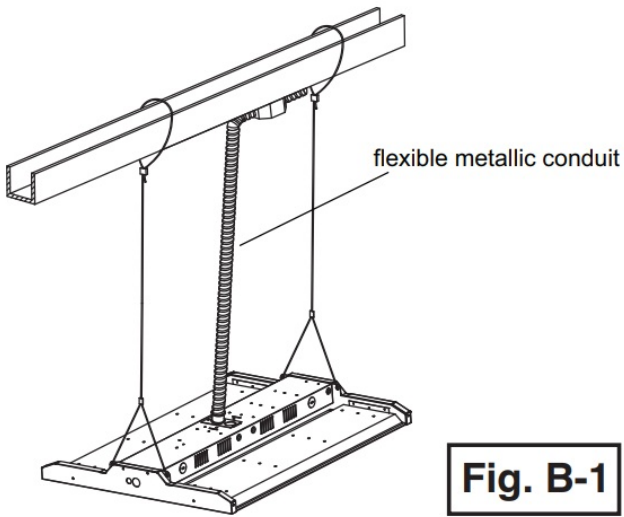

Fig. B-1
1. Run the cable kit wires through the four holes provided at each end of the fixture as shown in Figure B-1. Ensure that the fastener passes through the hole completely Figure B-3.
4. Use the flexible metallic conduit to run the line, neutral and ground wires for powering the fixture. (Figure B-1)